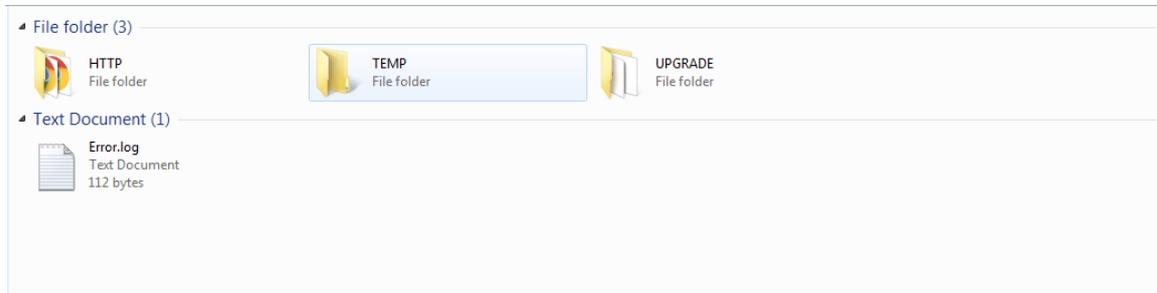

Figure 9.1.1
1. Connect controller to a PC using Micro USB data cable to read controller's storage disk. Double-click to access storage disk and three folders will be shown as Figure 9.1.1 below; (Note: controller in powered on state)